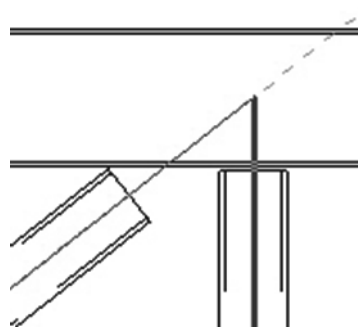

Figure 7–11
- Work from the centerline of all of framing members so that the analytical line extends into the adjacent framing, even though the graphical member stops at the edge of the column or beam, as shown in Figure 7–11.